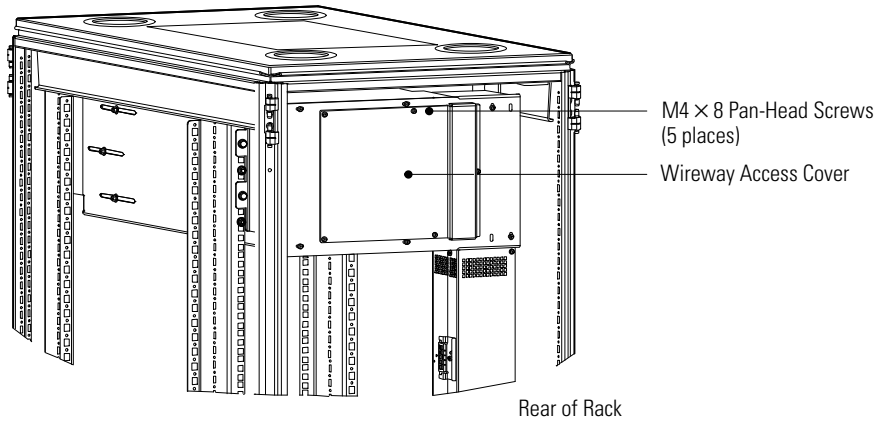

Figure 18. Wireway Access Cover Installation
20. Using five M4 × 8 pan-head screws, install the wireway access cover. See Figure 18. Torque the screws to 1.7 ± 0.2 Nm (15 ± 2 lb in).